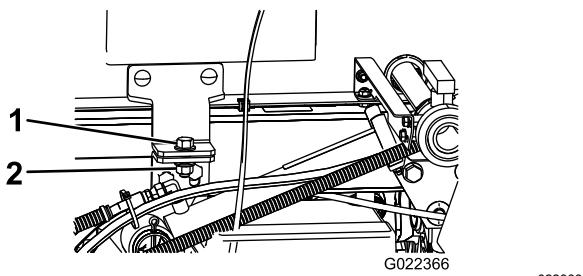

Figure 41
4. Remove the safety bolts from the front of the skid (Figure 41).